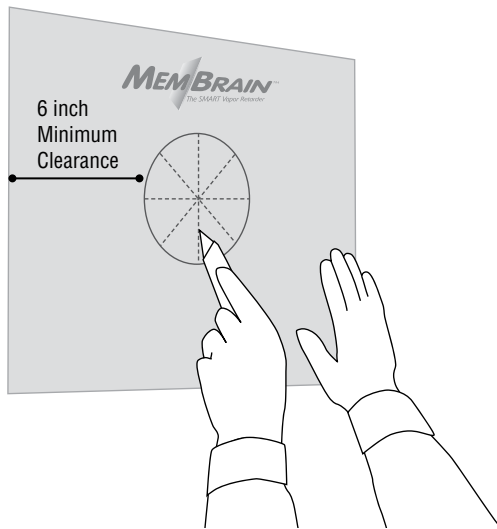

Figure 10: Patch preparation.
Large Circular Penetrations – Figures 10 and 11
- Intersect the circle with four diameter lines. (See Figure 10)